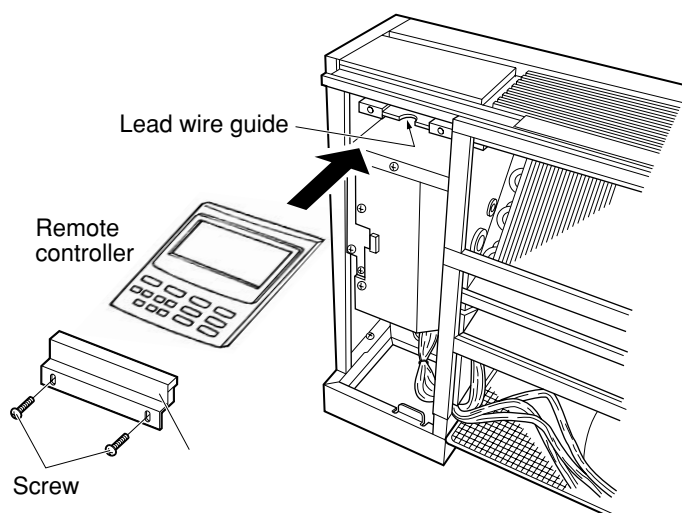

Fig. 3-132
- (2) Remove the front panel. Remove the screws and fixture. (Fig. 3-132)
- (3) Place the remote controller into the space in the unit as shown in Fig 3-132. Assemble the lead wires of the remote controller to its rear side center and route them to the lead wire guide.
- (4) Secure the fixture using the supplied screws.